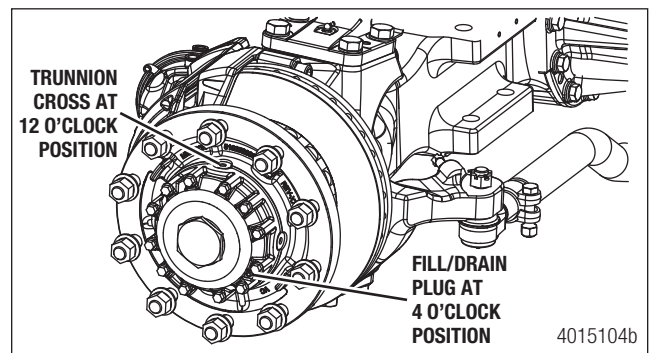

Figure 16.2
3. Rotate the wheel end so the hub trunnion cross is at the 12 o'clock position and the fill hole is at the 4 o'clock position. Figure 16.2.